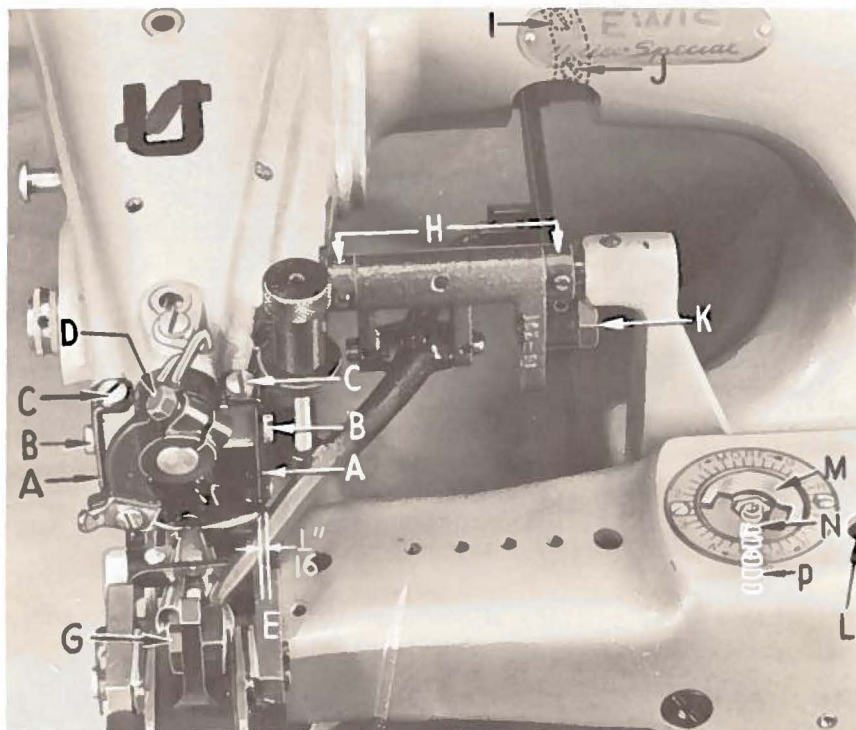
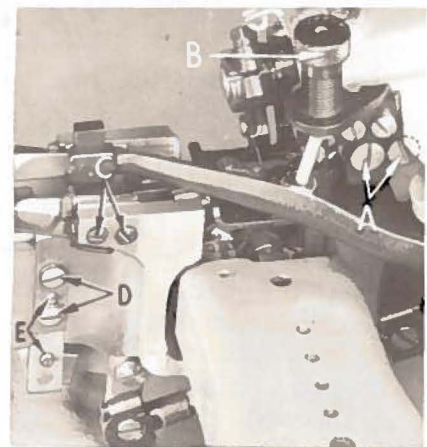
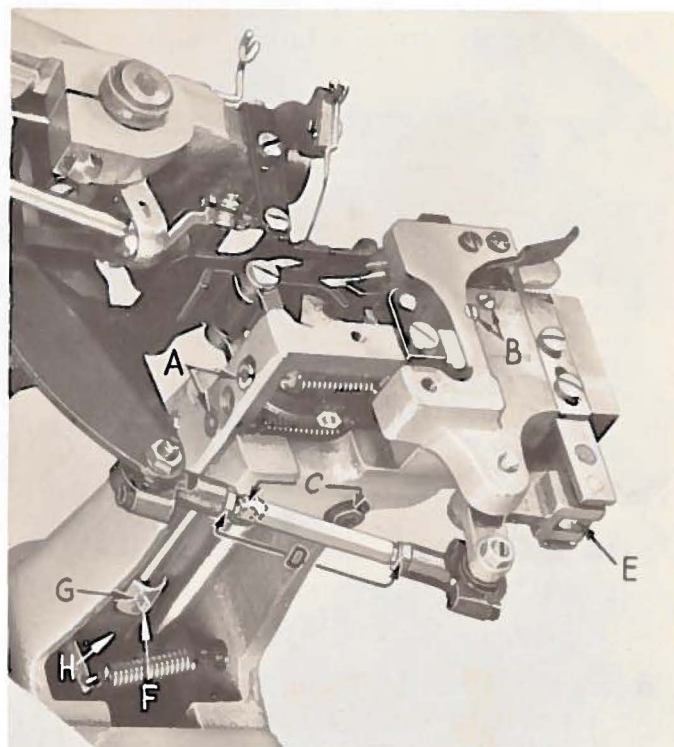

Fig. 2
Fig. 6
Fig. 7
In order to accomplish these adjustments, the screws in the presser foot brackets (A, Fig. 2) are manipulated. Screws (B) are used to clamp the brackets securely, and screws (C) are used to assist in making adjustments.
To obtain this adjustment, loosen needle clamp screw (D, Fig. 2) just enough to allow the carrier to be moved by taping. Re-tighten clamp screw (D, Fig. 2) when the above setting is obtained.
Turn the handwheel in operating direction until the needle has reached the extreme right position. The point of needle should be $1/16$ inch from the upper right edge (E, Fig. 2) of the presser foot.
The feed point is adjusted by means of two screws (A, Fig. 6) holding the feed point to the feed driving arm.
Pressure on the feed platen is controlled by the two nuts in the back of the cylinder (A, Fig. 7). Turning them counterclockwise increases the tension, clockwise acts the reverse.
NOTE: Before adjusting the ridge forming disc, be sure that there is no end play in the cradle (H, Fig. 7). If there is end play see Catalog No. 194-5, pages 9 and 10.
In order to adjust the disc, loosen the set screw (F, Fig. 7) in the collar (G, Fig. 7); also the clamp screw in the crank, accessible through the hole (L, Fig. 2). Turn the handwheel in operating direction until the point of the needle, when traveling to the right, is in line with the center of the presser foot. Position the disc manually so that it lines up with the center of the presser foot and there is $\frac{1}{16}$ inch between the small radius of the nose of the disc and the point of the needle. Re-tighten the clamp screw in the crank; also the set screw (F, Fig. 7) in collar (G, Fig. 7) and set the collar to take up all the end play in the ridge forming disc shaft.
The dialed regulator (M, Fig. 2) located on top of the cylinder base raises and lowers the ridge forming disc to get the correct needle penetration in the work being sewn. The word "More" indicates more depth, and "Less" indicates less depth of needle penetration.
The regulator also limits the amount that the disc can be raised in order to protect the needle point from striking the ridge forming disc. The adjustment is made by turning the regulator (M, Fig. 2) in the "More" direction as far as possible to stop pin inside of the regulator.
The needle point should be over the center of the ridge and the needle should just graze the ridge former. If this is not the case, remove the set screw (N, Fig. 2) and adjust screw (P, Fig. 2) underneath that contacts the cradle (H, Fig. 7) in which the ridge forming disc shaft is mounted and adjust screw so that the needle just grazes the ridge
Rotate the handwheel in operating direction and position the needle at the extreme left end of stroke. Insert the folder and position the front edge approximately $1/16$ inch from the needle. A slightly wider belt loop can be obtained by increasing the $1/16$ inch dimension. With the folder resting on the ridge former tighten the folder with the two locking screws (B, Fig. 7). If the folder does not center over the ridge former and in the opening of the presser foot, loosen the two knife block mounting screws (C, Fig. 7) and move the block accordingly. Care should be taken to move the block perpendicular to the line of feed.
Assemble front feed to feed arm with screw (G, Fig. 2). Do not tighten securely. Release feed arm pressure by rotating adjusting knob (B, Fig. 6) counter-clockwise.
Apply finger pressure to the top feed dog shank, holding the feed dog flat against folder base. While doing so, raise feed bar so that screw (G, Fig. 2) is at the top of the slot in the feed dog. Tighten screw securely in this position.
The center prong of feed should be located in center of opening in folder. To obtain this setting, adjust two collars on feed rocker (H, Fig. 2) accordingly.
NOTE: It may be necessary to adjust top front feed drive eccentric located on the main shaft when making the above adjustment. Loosen the two screws (I, J, Fig. 2) in the eccentric and position eccentric so that the feed drive strap operates free of any binds. The first screw (I), when turning the handwheel in operating direction, locates on a flat on the main shaft. It is essential that this timing be maintained.
The travel of the front feed is regulated by the position of the feed driving arm in the feed rocker slot. If it is desirable to increase the stitch length, loosen lock nut (K, Fig. 2) and raise driving arm in the feed rocker slot. To shorten stitch length, lower driving arm in slot. When the arm is at the top of the slot, the stitch length is approximately 4 1/8 S.P.I. When the arm is at the bottom of the slot, the stitch length is approximately 8 S.P.I. Normally, the arm is set in the center of the slot. With the driving arm located in the desired position, adjust the feed lift as follows:
Re-apply sufficient tension to feed bar by adjusting knob (B, Fig. 6) to insure proper feeding action.
Attach upper knives, chip deflector, and correct spacing plates with four attaching screws (C, Fig. 6 & 10). When securing knives, apply a slight upward pressure to the chip deflector and knives and lock in place. This will insure proper space between top of folder and cutting edges of the knives.
Turn handwheel clockwise until lower knives are at top of stroke. Loosen knife attaching screws (D, Fig. 6 & 10) and position knives to their maximum low position and retighten. (The elongated slots in the knives are to compensate for resharpener.)
Loosen nuts on ball joint connecting rod (D, Fig. 7) and turn connecting rod until front edge of lower knife is $1/32$ inch above bottom edge of top knife. Tighten nuts.
Adjust tension on knives by turning two screws (E, Fig. 6). The amount of tension applied may vary with the thickness of cloth to be trimmed.
Proper alignment of the bottom knives to the top knives is obtained by positioning the collar (E, Fig. 7). To obtain the correct alignment, loosen collar screw and operate the machine slowly. The knives will automatically align themselves. Lock collar in position, being careful not to disturb the alignment.